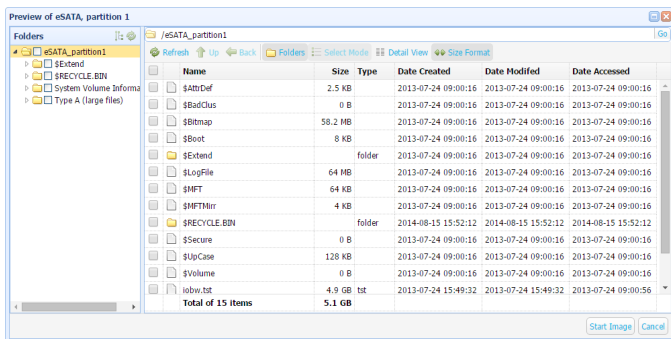

Figure 5. The file navigation tree.
- ii. Use the navigation tree to select the files and folders you wish to image (See Figure 5).